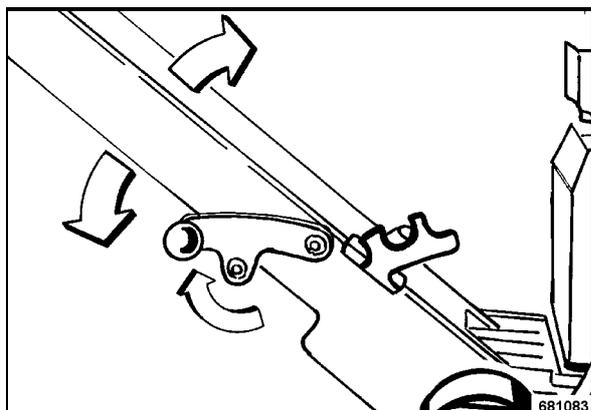

Fig. 9
- Pull locking the lever (Fig. 9) up and fold the rod down, so that steering rod can swing freely.